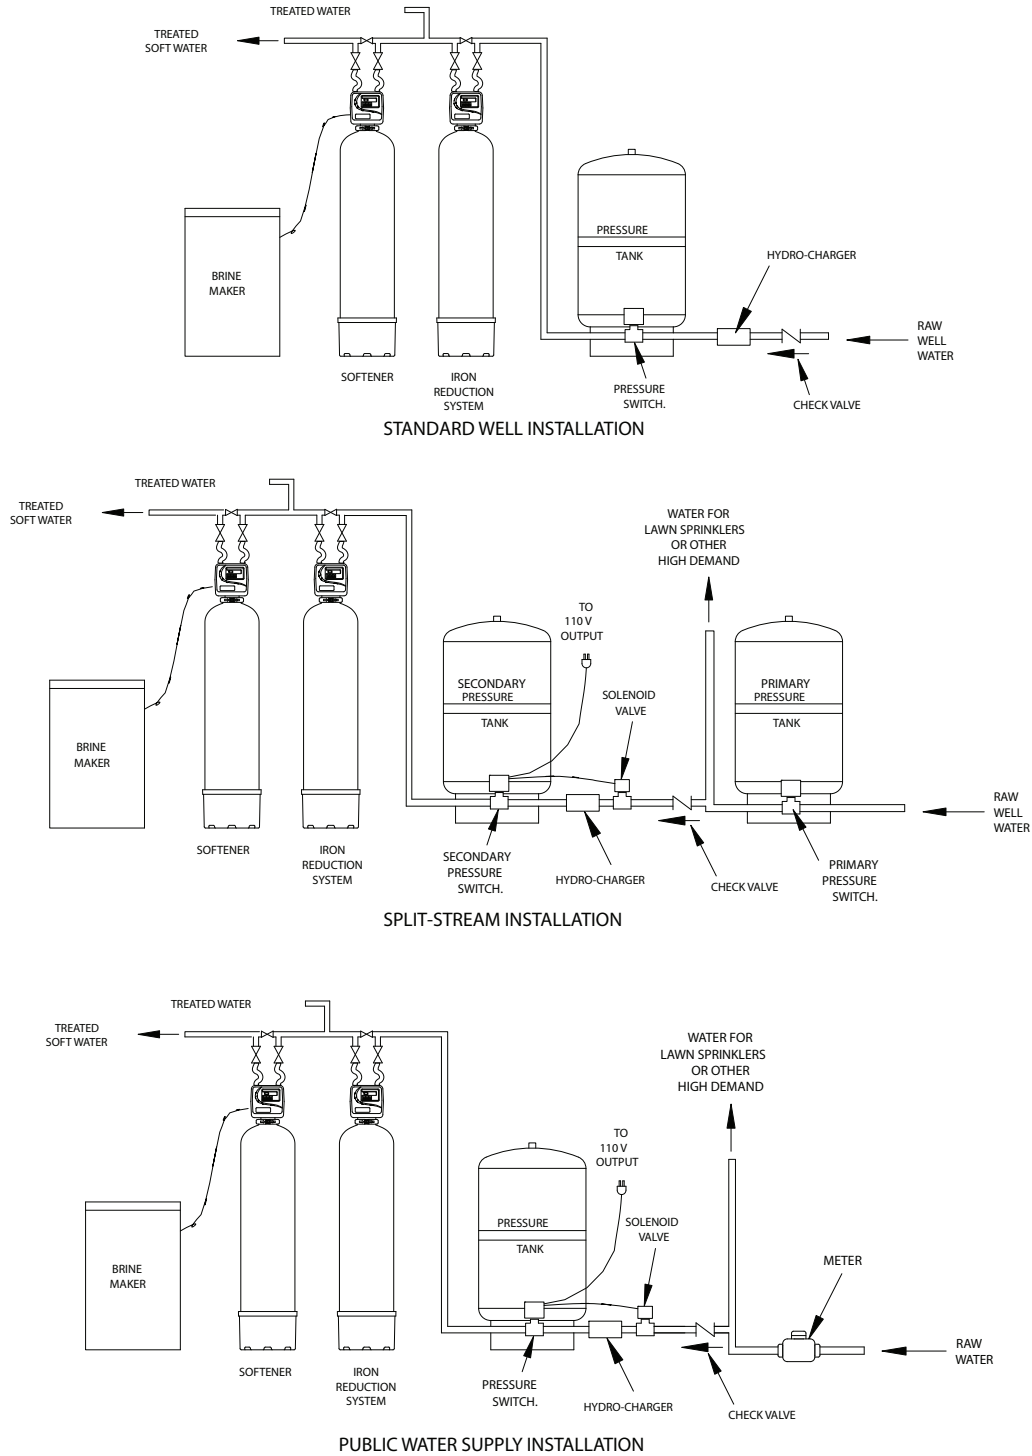
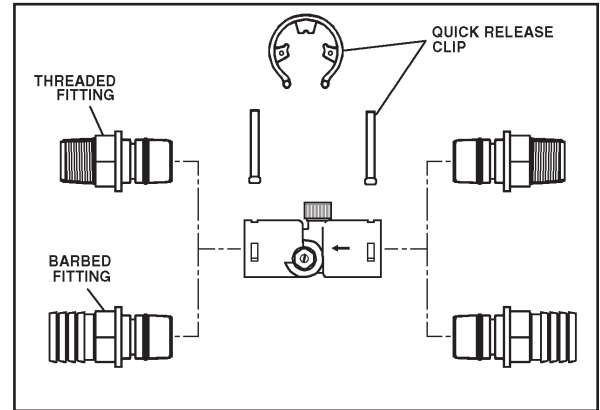

Figure 1
Figure 2: HYDRO-CHARGER INSTALLATION
- 3) Locate in correct relationship to other water conditioning equipment (Figure 1, page 3-1).
Cut main supply line as required to fit Hydro-Charger in plumbing between well pump and pressure tank (Hydro-Charger may be installed in a vertical or horizontal position). The Hydro-Charger has been supplied with both 1” threaded and 1” barbed (insert) fittings to allow for installation with various types of piping materials. When using the threaded nipples, use thread tape only. When using barbed (insert) fittings, appropriate pipe clamps must be used. Once installed the quick release nipples allow the Hydro-Charger to be rotated, so the air draw adjustment screw is accessible for adjustment by a small bladed screwdriver. Allow at least 10 inches of straight run of 1” pipe on both INLET and OUTLET side of the Hydro-Charger. Refer to Figure 2 for correct assembly. The quick release nipples also acts as a union to facilitate the Hydro-Charger removal, inspection and cleaning as needed. With an installation on PVC pipe and copper tubing it may require the addition of a normal plumbing union to aid in removal from the plumbing due to the rigidity of that type of material. Make certain the directional arrows on the Hydro-Charger points toward the pressure tank and the pressure control switch is located on the pressure tank side of Hydro-Charger as in Figure 1. Rapid cycling of pump may occur if the pressure control switch is located on well side. If a check valve is located between hydrocharger and pressure tank, it may prevent the Hydro-Charger from performing properly. Relocate to well side of Hydro-Charger.
- **If installation is to be split streamed prior to filter vessel or is it a public water supply (see figure 1), or refer to special instructions on page 3-12.**